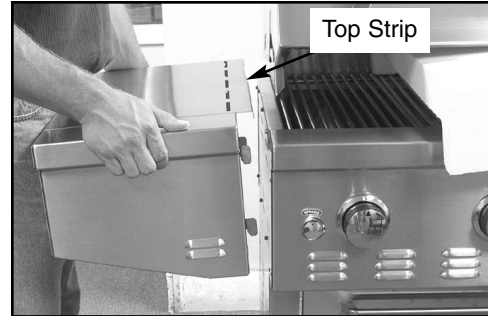

Fig. 1
1. Open the grill hood and place a piece of styrofoam from the packaging under the grill hood to prop the grill hood open slightly. (See Fig. 1)
2. Attach the left shelf by inserting the four shelf hooks into the slots on the side of the grill. (See Fig. 1)
3. After inserting the four shelf hooks, press the shelf against the grill and press downward until the shelf locks in place. Make sure the top strip is hanging all the way inside of the grill before pressing downward. (See Fig. 1)